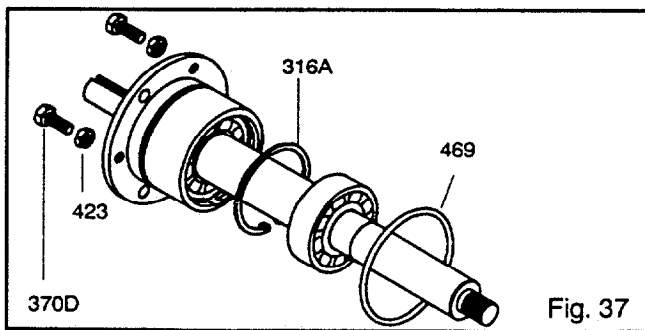

Fig. 37
3. Remove jack screws (370D) with nuts (423) (Fig. 37).
4. Remove bearing housing O-ring (469).